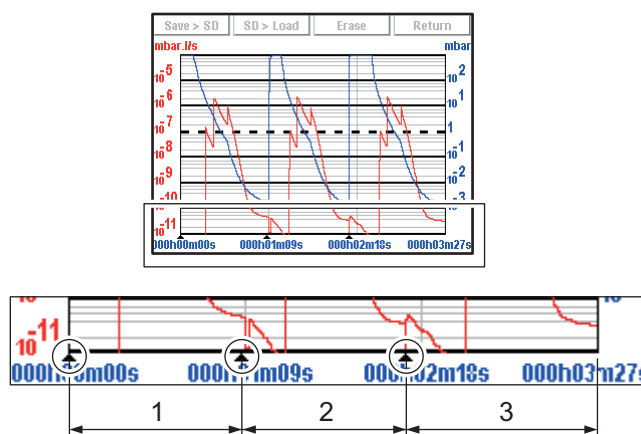

Fig. 13: Recording example
→ Set the area to be enlarged (ref. 1 then ref. 2 Fig. 13).